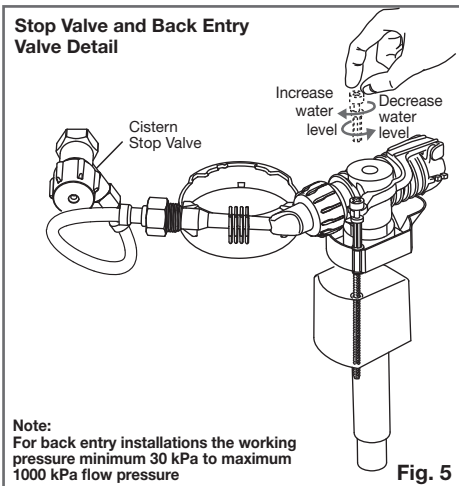

Fig. 5
- 4- Fit Cistern Stop Valve (supplied) to the 1/2" B.S.P. nipple in the wall using approved thread seal, in the downward angled position as detailed in Fig. 5. Connect one end of flexible hose to cistern stop valve.
- 7- Adjust water level to the 4.5 litre water level mark inside the cistern by simply turning the float arm screw in a clockwise or anti-clockwise direction as detailed in Fig. 5.